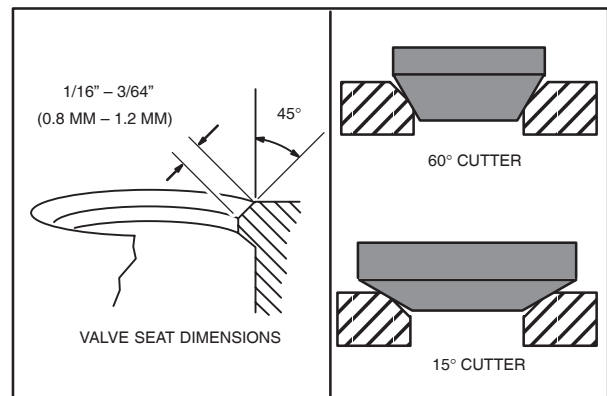
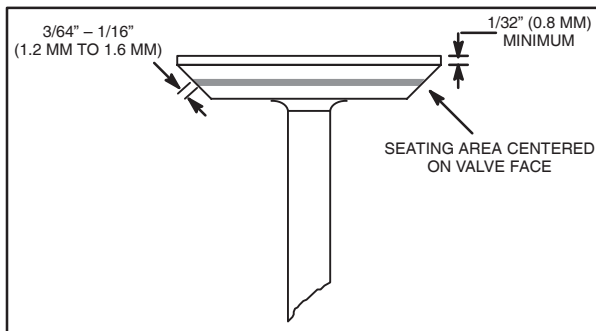

Fig. 14
Fig. 16
If valve seat is wider than 3/64" (1.2 mm), Fig. 14, use a narrowing cutter to ensure that contact area of valve seat is centered on face of valve, Fig. 16.
Use a 60° cutter, Fig. 14, top inset, to narrow seat from bottom. Use a 15° cutter, Fig. 14, bottom inset, to narrow seat from top.
2. Valve faces can be resurfaced to **45°**. See **Fig. 16** for dimensions for valves.